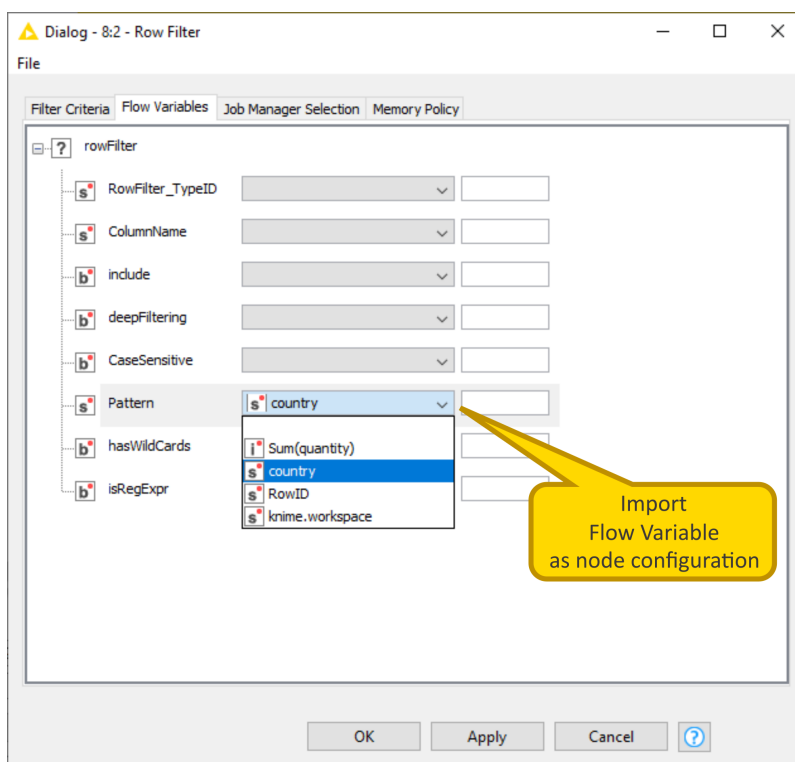

Figure 11. Overwriting node configurations in the flow variables tab
- b. If the flow variable icon is not present, go to the *Flow Variables* tab, navigate to the chosen node configuration and select the flow variable from the drop-down menu as shown in Figure 11.